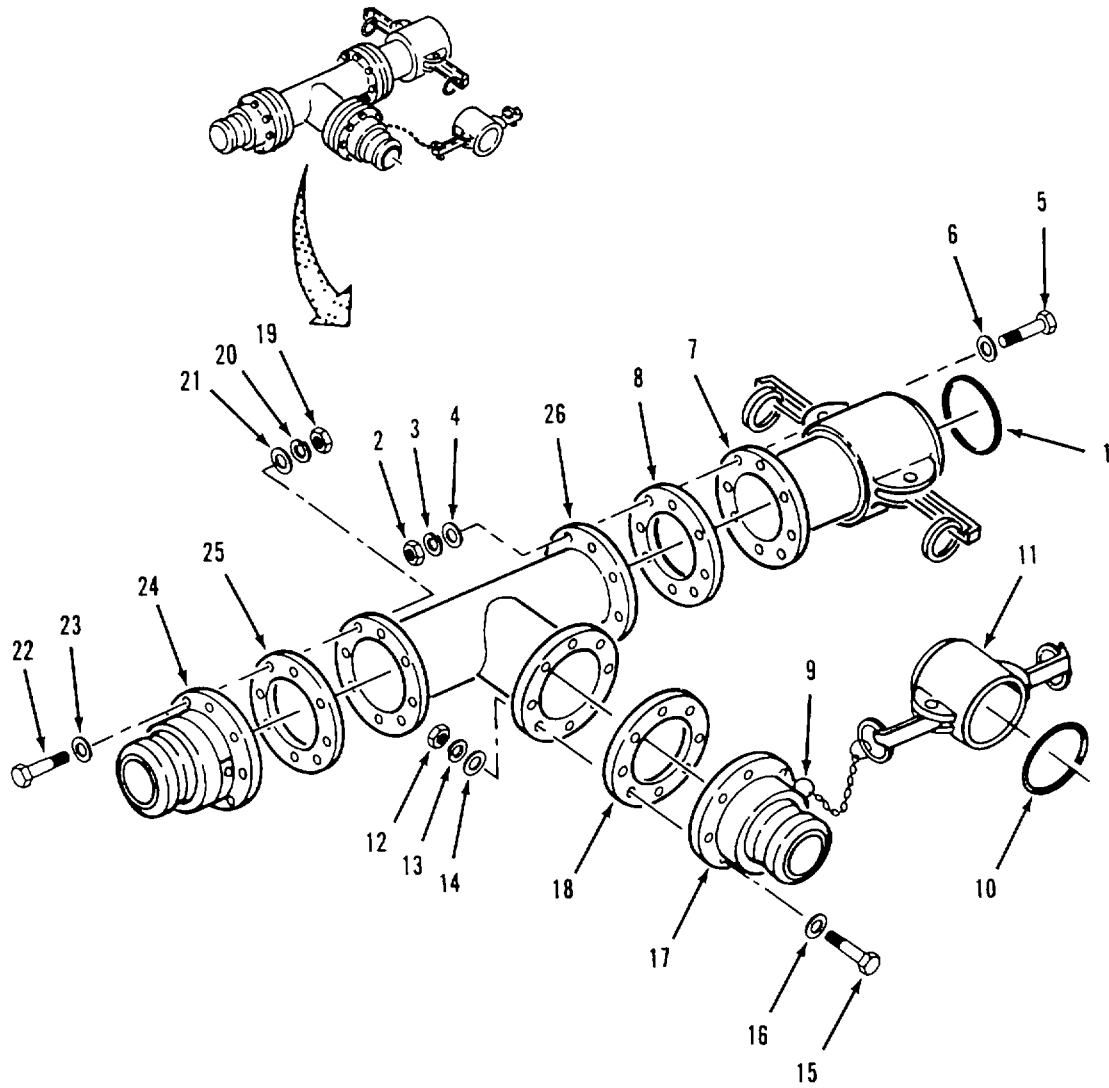

Figure 4-22. Tee Assembly (9112-Y2) Assembly.
- e. Assembly. Refer to figure 4-22.
- (1) Position gasket (25) and male coupling (24) on tee (26).
- (2) Install eight flat washers (23), screws (22), flat washers (21), lockwashers (20) and nuts (19).
- (3) Position gasket (18) and male coupling (17) on tee (26).
- (4) Install eight flat washers (16), screws (15), flat washers (14), lockwashers (13) and nuts (12).
- (5) Connect ring (9) and attached cap (11) to male coupling (17).